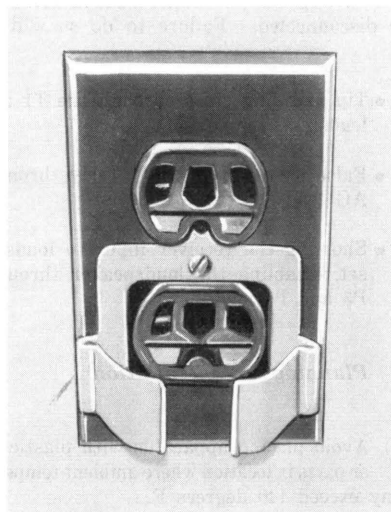

Fig. 8—841050818 Retaining Clamp Mounted on AC Outlet Box Using Outlet Cover Screw
**Danger:** For safety, securely attach retaining clamp to ac outlet using outlet cover screw BEFORE attempting to install 85B1 power unit. See Fig. 8. When removing 85B1 power unit, always unplug the power unit completely from the outlet BEFORE attempting to remove the retaining clamp. This will prevent the possibility of a loosened retainer clamp or metallic outlet cover making contact with the ac prongs of the 85B1 power unit when partially withdrawn from outlet. Do not use